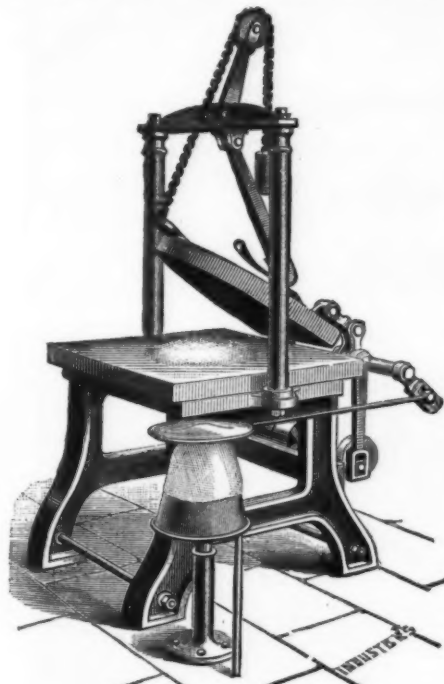

FIG. 2.
**Flat Hardening.**—To produce felt from wool, the three things required are heat, moisture, and friction. Fig. 2 shows how these are applied. The hat bodies are placed upon the table, and the plate is then dropped upon them. A rubbing motion is then communicated to the plate through the medium of a crank upon the pulley shaft, transmitted through a connecting rod carried by a secondary shaft, and which is extended above the latter—a short link imparting motion to the rubbing plate. A few minutes of this treatment turns out the body in a sufficiently felted condition to be fit for a subsequent operation of a more drastic character. A defect in this machine exists in the fact that hat bodies hardened on the "flat," while being thoroughly done in the body, are found insufficiently finished about the crown. It becomes necessary, therefore, to operate upon that part by a separate process. The method of accomplishing this is shown in the immediate foreground of the illustration. The hats are drawn on to the cone, which is heated by means of a steam pipe shown on the right, and the rubbing disk does for the crown precisely what the flat rubber has already done for the lower parts of the hat. The power for the crown rubbing is applied in precisely the same way as for the flat process on the table, the connection being plainly indicated in the figure.